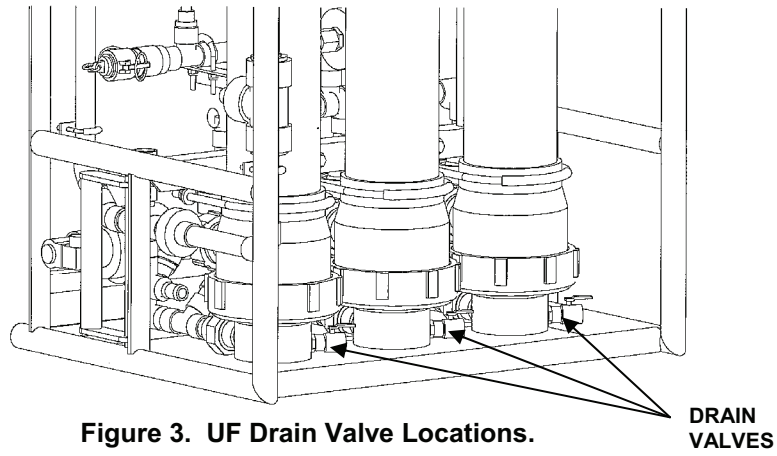

Figure 3. UF Drain Valve Locations.
10. Drain the UF module. Open the seven drain valves. The module can be tilted slightly to aid in draining. See Figures 3, 4, and 5.